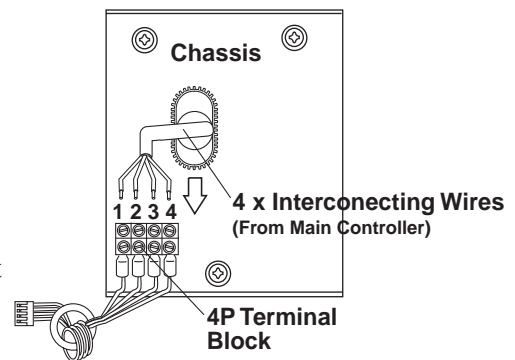

Fig.3-20 Interconnecting Wires Connection in Sub Controller
4. Cut 4 interconnecting wires from main controller to a workable length. Strip 3/16" insulation off the wires and connect them to the **4P** terminal block. Terminal number for each wire should be matched to the terminal number in the main controller. **(Fig.3-20)**